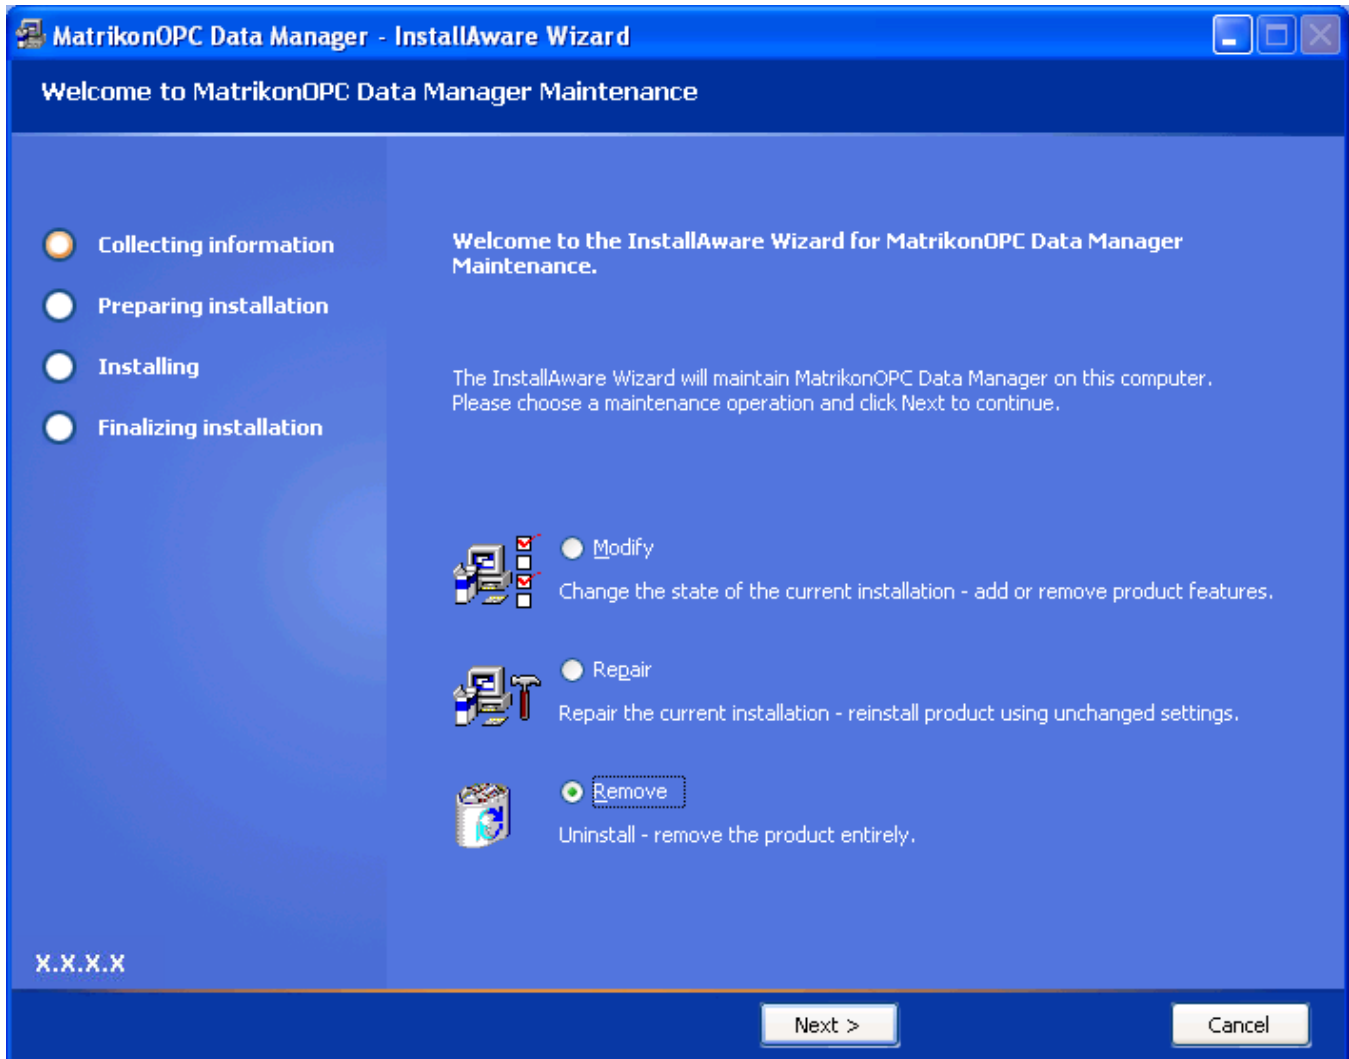

Figure 67 - Welcome to MatrikonOPC Data Manager Maintenance Screen
6. The **MatrikonOPC Data Manager – InstallAware Wizard** appears, and the **Welcome to MatrikonOPC Data Manager Maintenance** screen (Figure 67) is displayed.